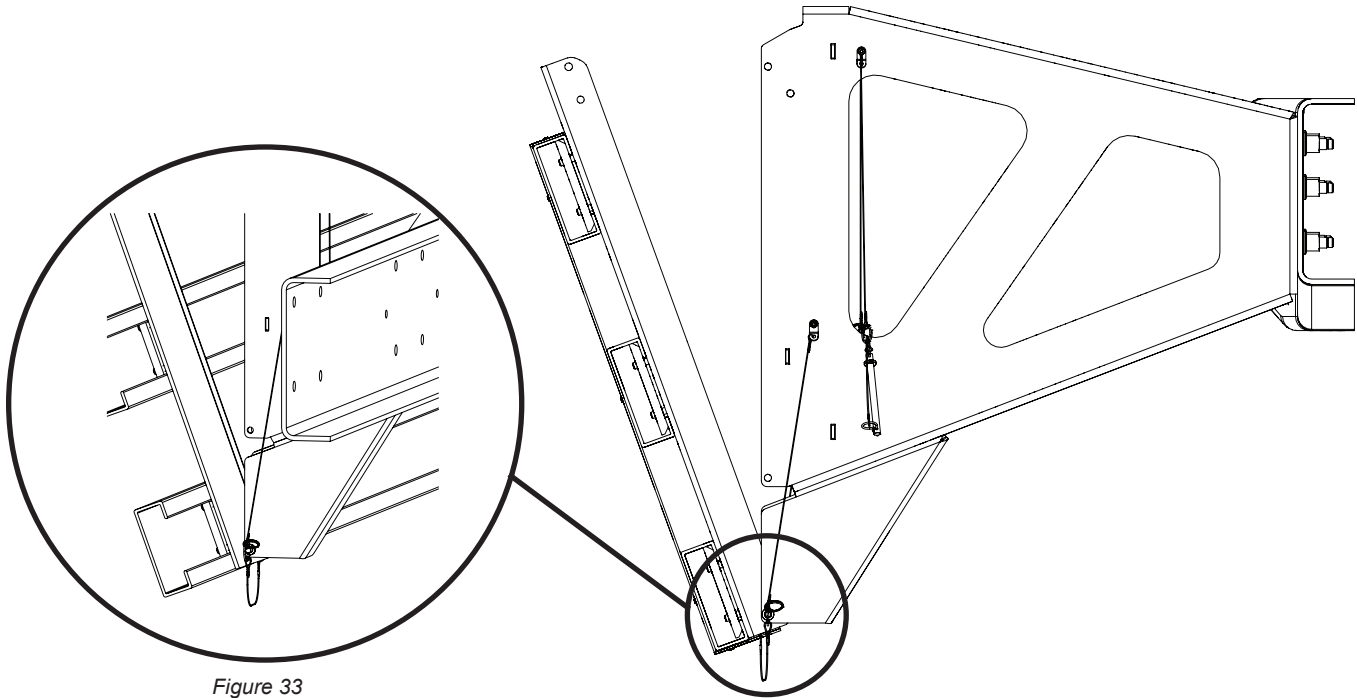

Figure 33
2. Tilt the LPD down, keeping it hinged to the mount weldments by the lower hinge pins (Figure 33).